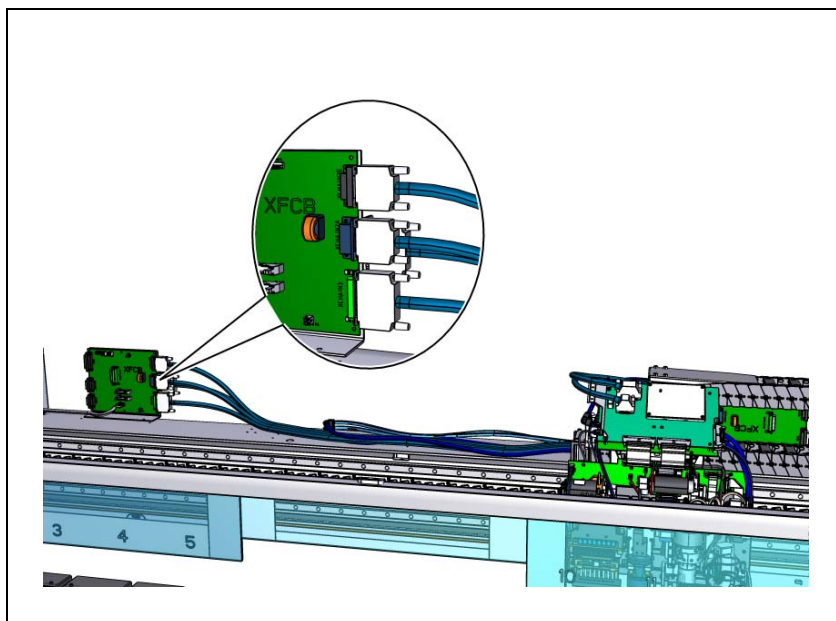

Figure 5-29. Remove cable connectors.
1. Remove the four cable connectors from the left XFCB (X Frame Connector Board). See Figure 5-29.
3. On top of the X beam, disconnect the vacuum and pressure hoses from the hose fittings ('A' in Figure 5-29).
15. Attach and secure the four cable connectors to the left XFCB (X Frame Connector Board). See Figure 5-29. Refer to the markings on the cables to ensure that they are connected correctly.